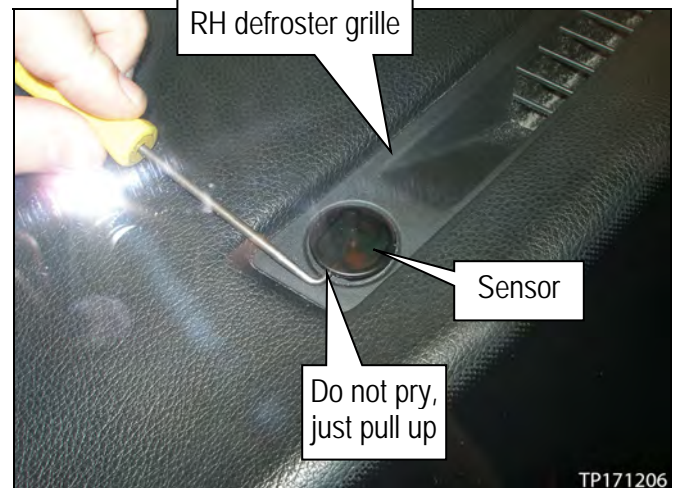

Figure 26
- With the same type or similar tool used in Figure 26, hook under the defroster grille, and then carefully pull up.